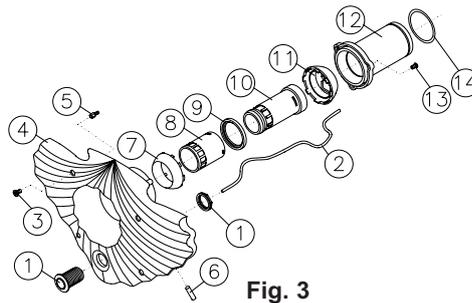
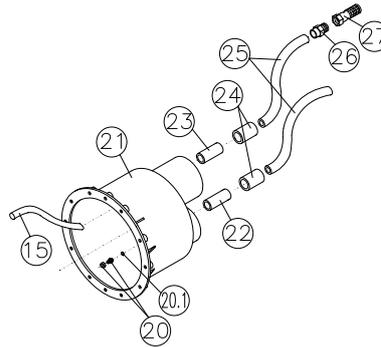
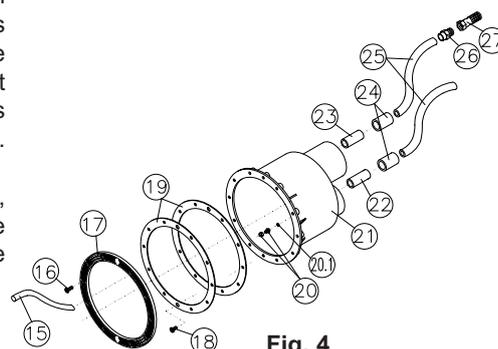
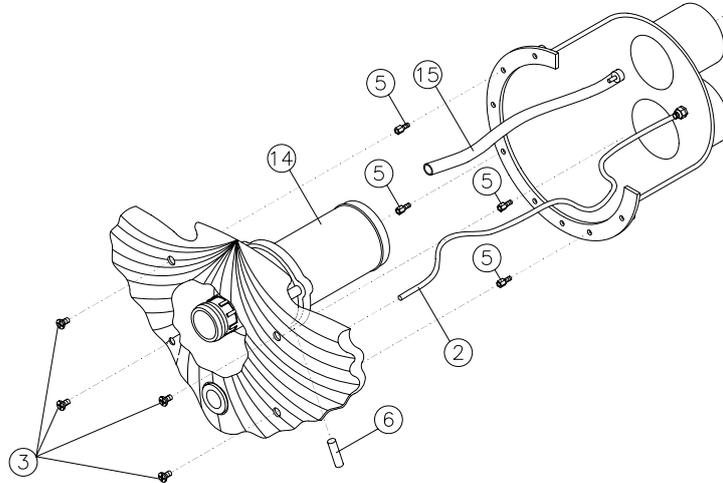

Fig. 3
Fig. 2
Fig. 4
Fig. 5
3.1 To fix the niche (no.21, fig.2) in a concrete wall, only the instructions given in chapter 2 (place of installation) need be followed.
4.1 The niche is supplied with pipes no.22 and 23, (fig.2) already installed. Additionally, one of the hoses (no.24, fig.2) is supplied glued inside pipe no.22.
This line is made up of a hose (no.24), a flexible pipe (no.25), a male screw fitting (no.26) and a foot valve (no.27). All these parts are supplied fitted, so it is only necessary to glue the end of the hose (no.24) to the pipe (no.23) which is already fitted in the niche. It is important to fix the air line pipe to the wall of the housing so as to ensure that foot valve is in the upper part. This is so as to avoid sucking up dirt (see fig. 8, page 20). Lastly, install the flexible pipe (no.15, fig. 2) pressing it inside the nozzle in the interior of the niche (see fig.5, page 17).
This line is made up of a pipe (no.22), a hose (no.24) and a flexible pipe (no.25). As the pipe (no.22) and the hose (no.24) are already installed in the niche, you only need to glue the pipe (no.25). Before gluing the end of the pipe (no.25) to the hose (no.24), fit the transparent pipe (no.2, fig.3) into the pneumatic line and pass the end of the transparent pipe (no.2, fig. 3) through the hole in the niche. Fix it in position with the clamp (no.20 and 20.1, fig.2). Once this is complete, glue the pipe (no.25) to the hose (no.24). The end of the transparent pipe (no.2, fig.3) will be connected to the microswitch located on one side of the hydropneumatic cut out included with the HIDROJET equipment.
5.1 In order to fix the niche in a liner wall you should follow the instructions given in chapter 2 (place of installation). Fix the seals (no.19, fig.4), to the niche (no.21, fig.4) with the screws (no.18, fig.4), bearing in mind that the liner will lie between the two seals (no.19, fig.4). Finally, fit the ring (no.17, fig.4) and attach it with the screws (no.16, fig.4).
6.1 The niche is supplied with pipes no.22 and 23 (fig.4) already installed. Additionally, one of the hoses (no.24, fig.4) is supplied glued inside pipe no.22. Once the niche has been fixed to the wall, following the instructions given in chapter 2, proceed to install the pneumatic and air lines.
Lastly, install the flexible pipe (no.15, fig.4) pressing it inside the nozzle in the interior of the niche (see fig. 5, page 17).
This line is made up of a pipe (no.22), a hose (no.24) and a flexible pipe (no.25). As the pipe (no.22) and the hose (no.24) are already installed in the niche, you only need to glue the pipe (no.25). Before gluing the end of the pipe (no.25) to the hose (no.24), fit the transparent pipe (no.2, fig.3) into the pneumatic line and pass the end of the transparent pipe (no.2, fig.3) through the hole in the niche. Fix it in position with the clamp (no.20 and 20.1, fig.4).
7.1 The complete front piece is supplied assembled, comprising parts no.1 to no.14 (see fig.3), with the exception of the transparent pipe (no.2), which is already fitted in the niche (see fig. 5).
- Connect pipe no.15, inserting it into the nozzle (no.6) on the front piece (see fig.5).
- Screw the four spacing screws (no.5) into the niche (see fig. 5).
- House the complete front piece in the niche, ensuring the that o-ring (no.14) is inserted in the orifice on the discharge side (\varnothing 75 mm.), see fig. 5.
- Tighten the four screws (no.3) (see fig. 5). Once they are tight the front is fully in place.